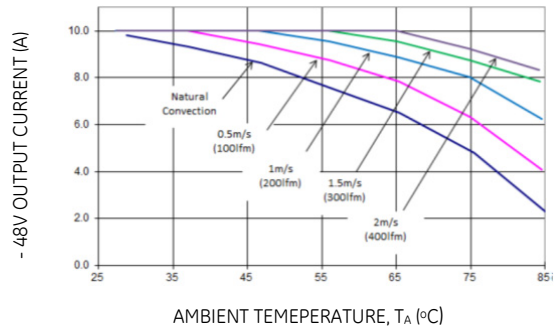

Figure 17. -48V Output Current Derating for the Module; Airflow in the Transverse Direction from Pin7 to Pin1; Vin = 48V & 3.3V @ 1.5A.
Increased airflow over the module enhances the heat transfer via convection. Derating curves showing the maximum output current that can be delivered by each module versus local ambient temperature (TA) for natural convection and up to 2 m/s (400 lfm) forced airflow are shown in Figures 17 & 18.